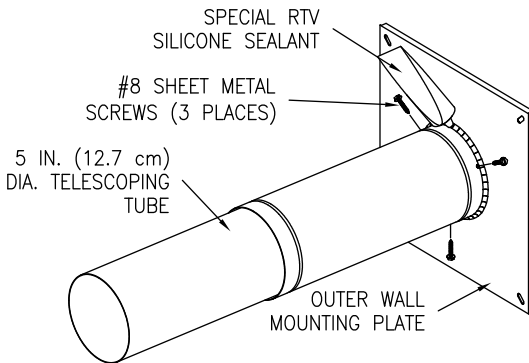

Figure 8
8. Extend the five (5) inch (12.7 cm) diameter telescopic tube to its maximum length. Place the large end of the five (5) inch (12.7 cm) diameter telescopic tube over the collar on the outer wall mount plate. Drill three (3) 1/8 inch (3.0 mm) diameter holes, 120° apart, through the five (5) inch (12.7 cm) diameter telescopic tube into the collar on the outer wall mount plate. Fasten with three (3) #8 sheet metal screws (supplied). Using the supplied special RTV silicone sealant, apply a sufficient amount to seal the joint (See Figure 8).